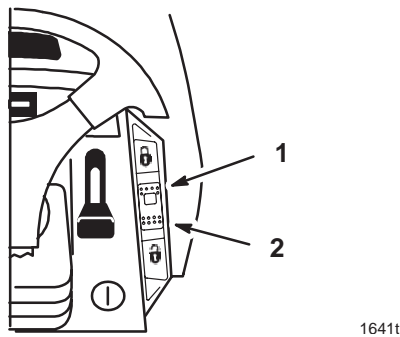

Figure 15
The cruise control is optional on some models. A three position Set-Lock (spring loaded), On and Off-Unlock dash switch (Fig. 15) controls the engagement. Cruise control maintains the traction control position without foot pressure. Cruise control is intended for operation in the forward direction only. Do not use cruise control in reverse.
1. Begin driving tractor: Refer to Driving Forward or Backward, Page 17. While holding your foot steady on the traction control, push the cruise control switch (Fig. 15) to the “SET”–“LOCK” position.
1. While holding your foot steady on the traction control, move the cruise control switch (Fig. 15) to the “OFF”–“UNLOCK” position.